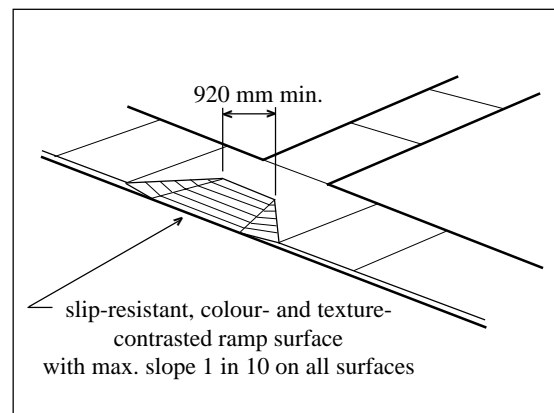

Figure 4
- Curb ramps should have a minimum width of not less than 920 mm, and preferably 1200 mm in areas where there is snow, measured across the ramp. (Figure 4)